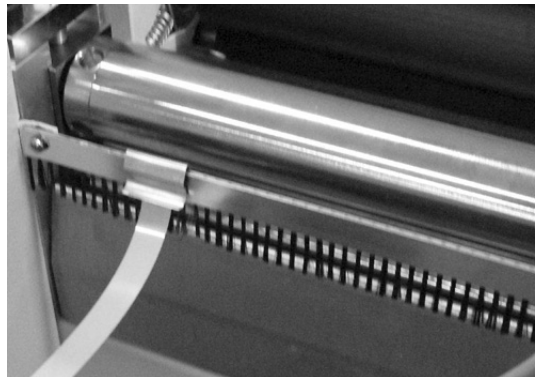

Figure 10
4. Figure 10 shows strap and clip in place.